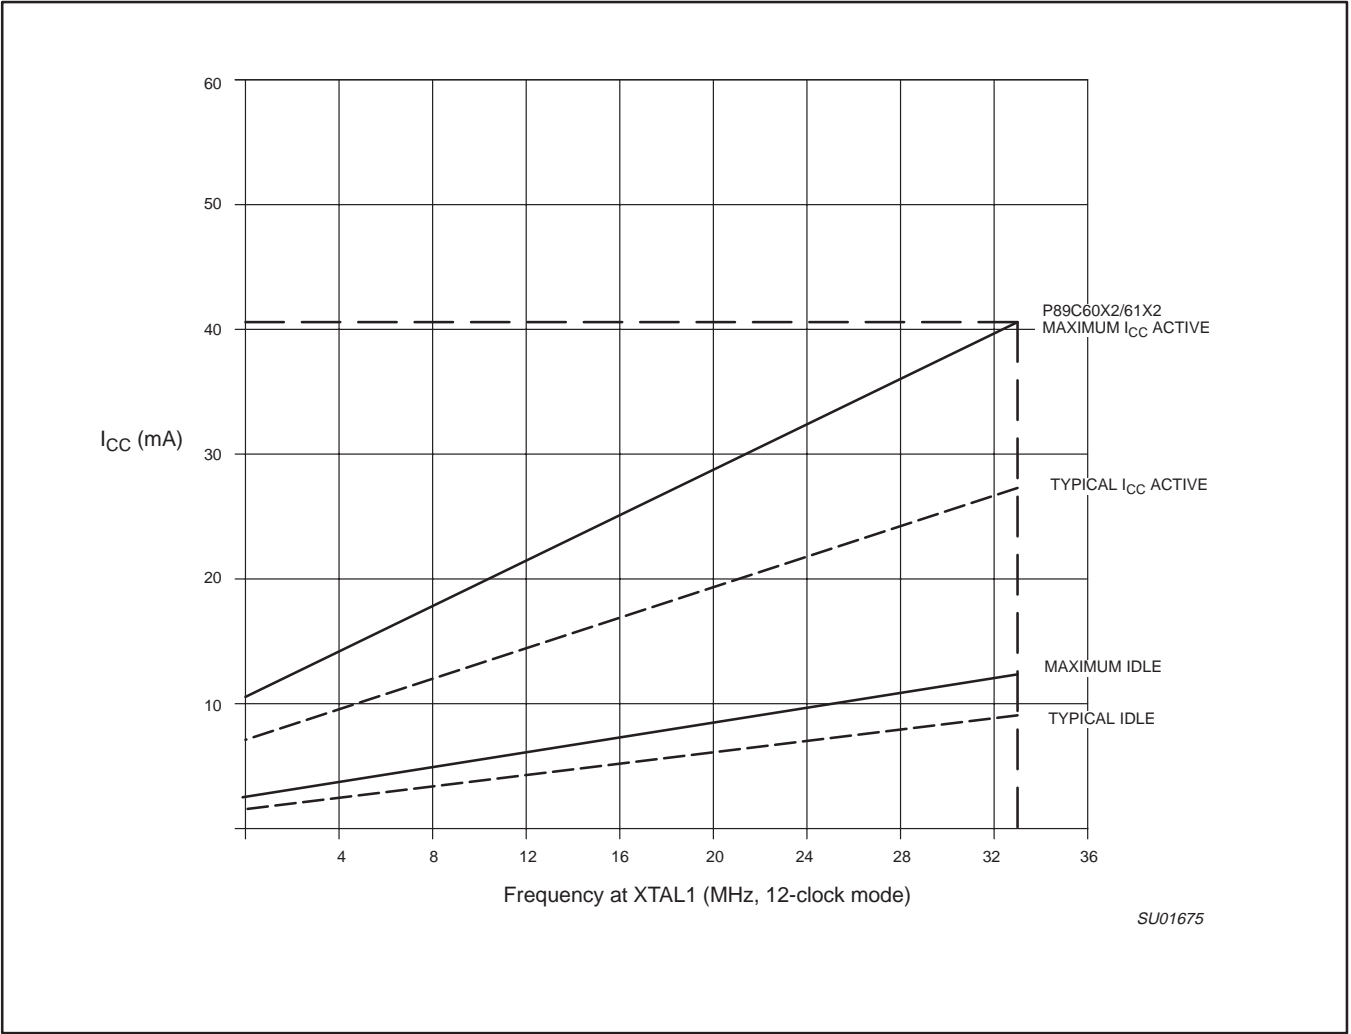

Figure 38.  $I_{CC}$  vs. FREQ for 12-clock operation
- See Figures 39 through 42 for  $I_{CC}$  test conditions and Figure 38 for  $I_{CC}$  vs. Frequency.